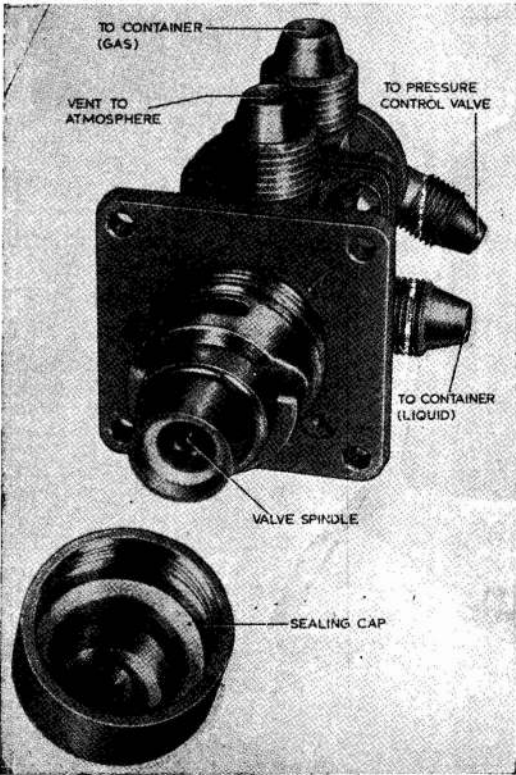

Fig. 1. Typical fill and vent valve, sealing cap removed
2. Referring to fig. 1, 2 and 3, the fill and vent valve embodies a bayonet type connection to accommodate a corresponding connection on the replenishing trolley hose. The valve is spring-loaded so that it automatically operates when replenishing is in progress and also when the replenishing hose is removed. The valve seatings of these valves are lapped metal to metal and all sliding seals are made by means of metal bellows.
4. When the liquid oxygen replenishing hose is connected to this unit, the central spindle (fig. 1) is pushed inwards against a spring-loading device,